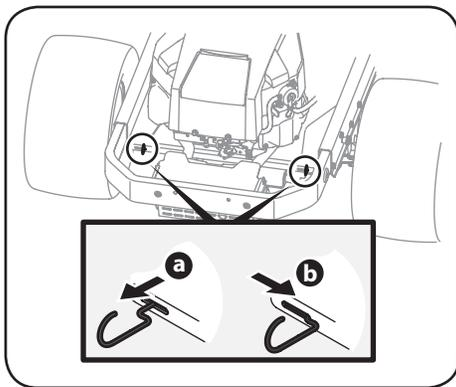

Figure 2-1
- Engage the transmission bypass rods, one on each side of the tractor, to move the tractor manually without starting it. The transmission bypass rods are located on the rear of the tractor, just inside each rear wheel. Engage the bypass rods by pulling each one out (a) and to the right (b) to lock it into place. See Figure 2-1.
- Disengage the bypass rods by reversing the steps after moving the tractor. See Figure 2-1.